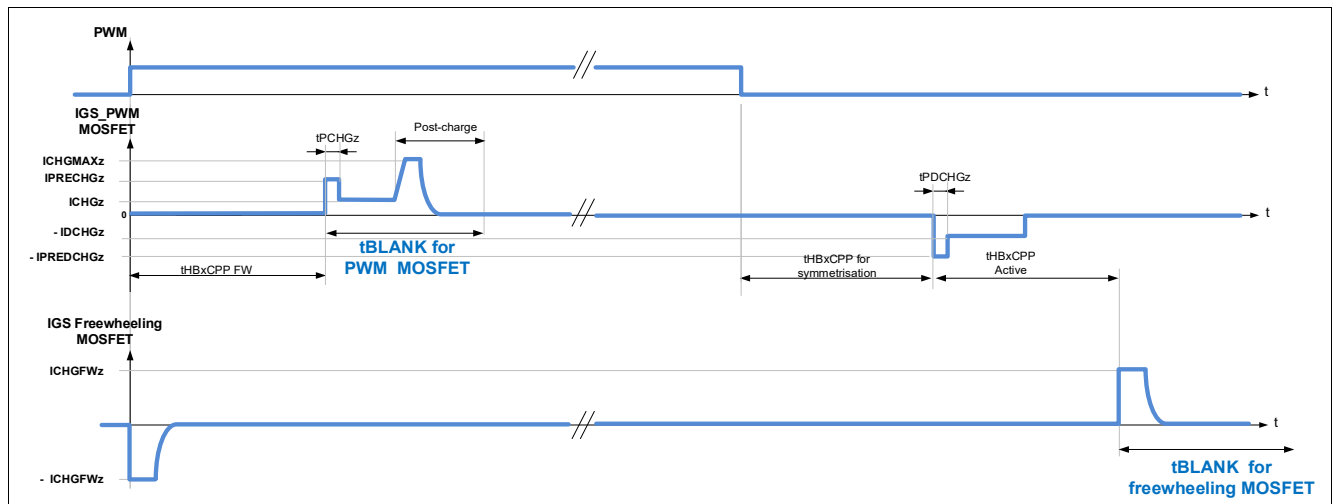

Figure 33 Blank time for half-bridges in PWM operation, detection of generator mode disabled ($EN_GEN_CHECK = 0$)
- The blank time of the PWM MOSFET starts at the expiration of the cross-current protection time of the FW MOSFET (tHBxCCP FW). Refer to **Figure 33**.
- The blank time of the FW MOSFET starts after expiration of the cross-current protection time at turn-off of the PWM MOSFET (t_{HBxCCP} Active). Refer to **Figure 33**.